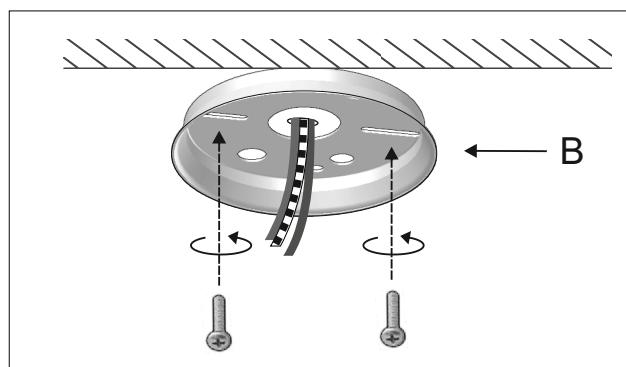

Figure 2
2 - Insert the main electrical cable through the subjection (B). Affix the subjection to the ceiling. Figure 2.